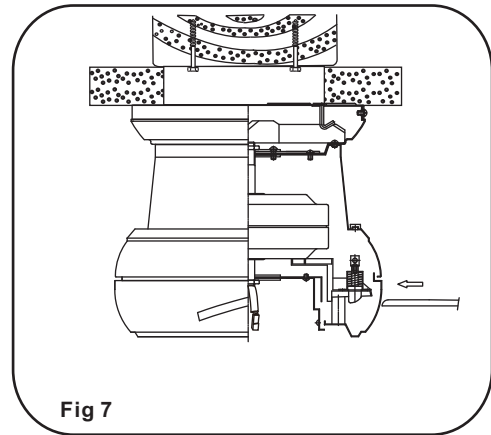

Fig 7
Step 1. Insert the blades into the motor housing blade slots, push blade until it stops. You should be able to hear the inside safety pin drop into the blade hole to secure the blade in place. (Fig. 7)